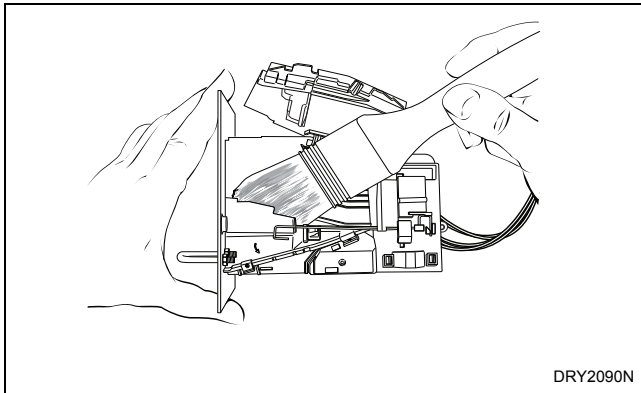

Figure 3
4. Clean the coin path with a soft brush and wipe exposed surfaces with an alcohol moistened cloth. Refer to *Figure 3*.